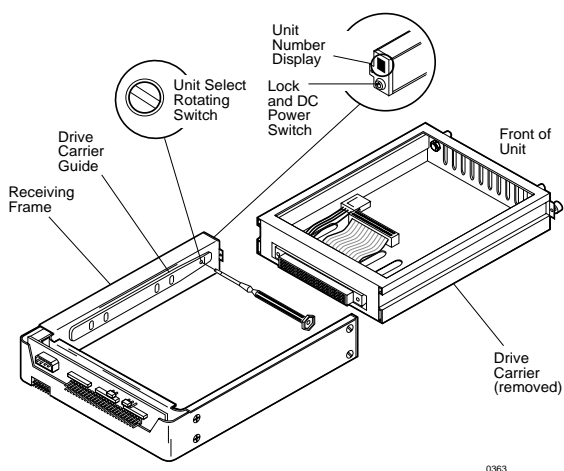

Figure 10: Unit ID Select Switch Location
4. Use the alignment tool supplied with the DE200i-S to select the unit ID number of the disk drive. Refer to Figure 10 for the location of the Unit ID Select Switch inside the receiving frame.